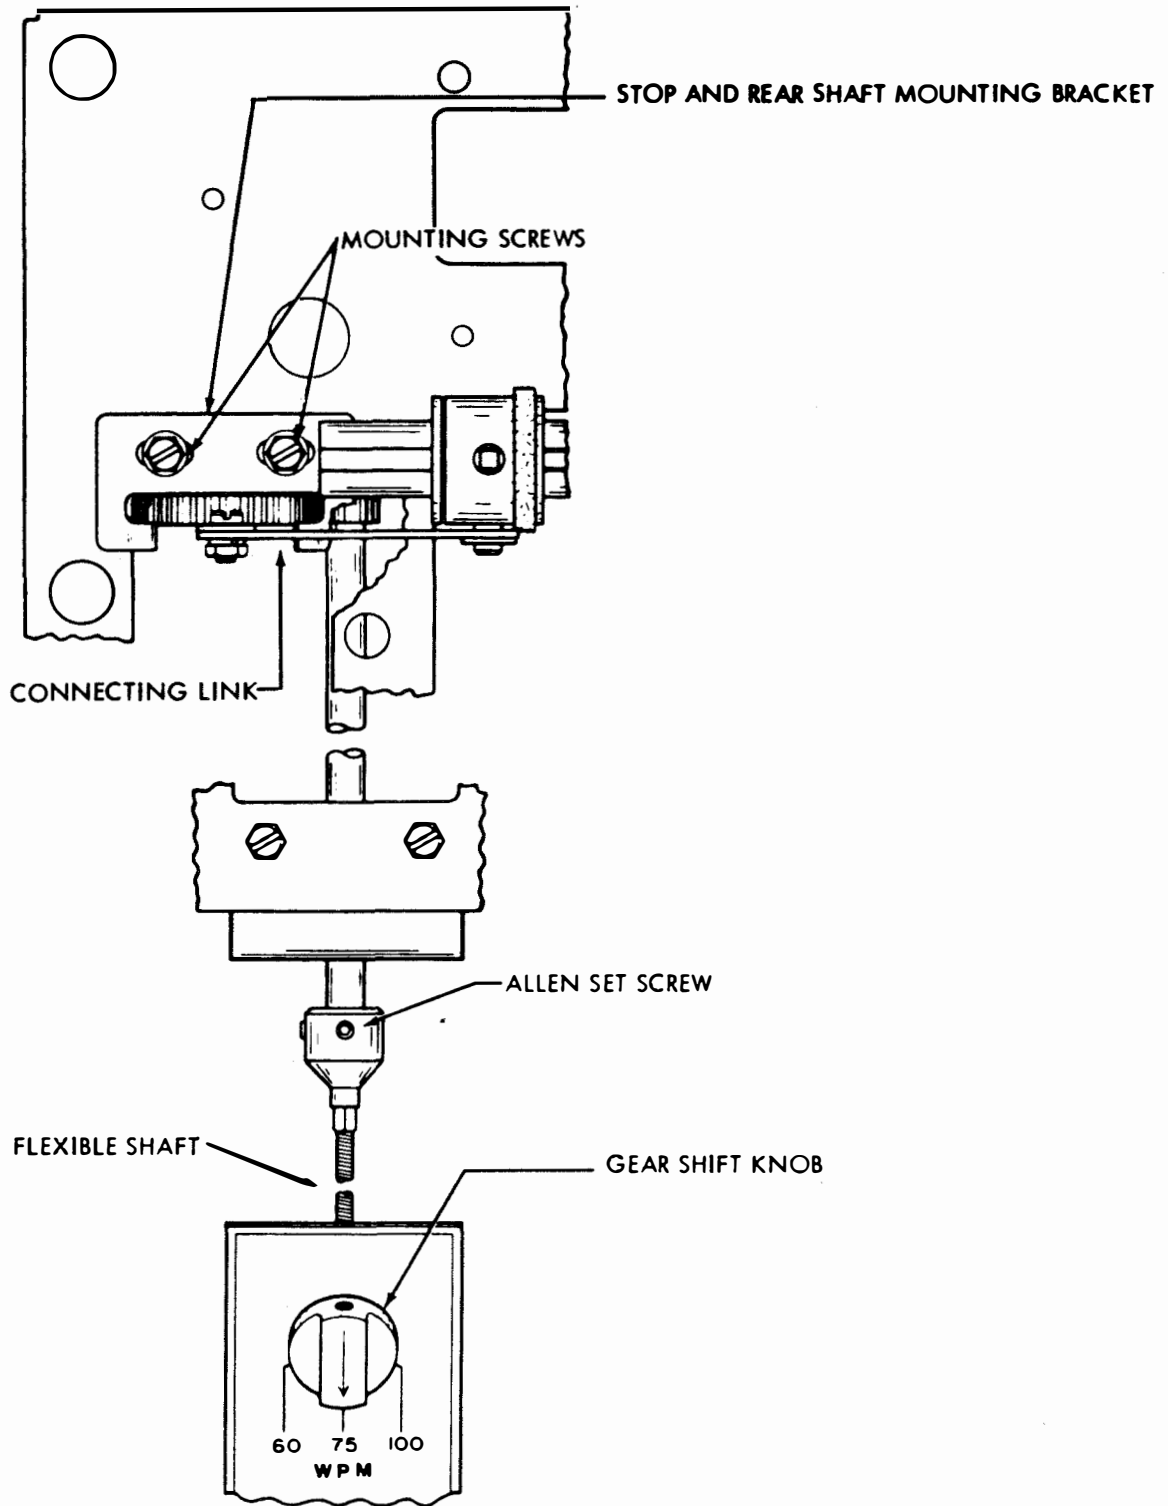

Figure 6-141. Stop and Rear Shaft Mounting Bracket and Gearshift Knob
(2) Stop and Rear Shaft Mounting Bracket. Adjust as follows:
- (a) Refer to figure 6-141.
(3) Gearshift Knob. Adjust as follows:
(4) Gearshift Key Spring. Adjust as follows: